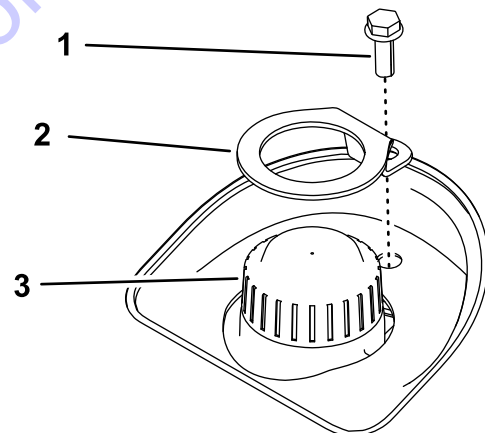

Figure 48
5. If the oil level is low, remove the cap lock and cap from the top of the expansion tank (Figure 48), and add enough of the specified hydraulic fluid to raise it to the proper level.